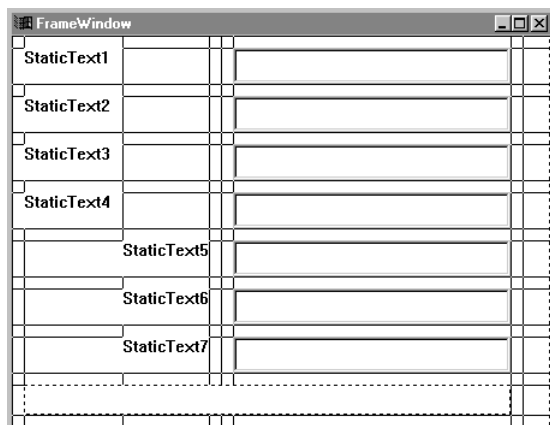

Figure 100. Multicell Canvas with `ISetCanvas*` Spanning Several Cells
- c. Release the mouse. The sample window now looks like Figure 100.